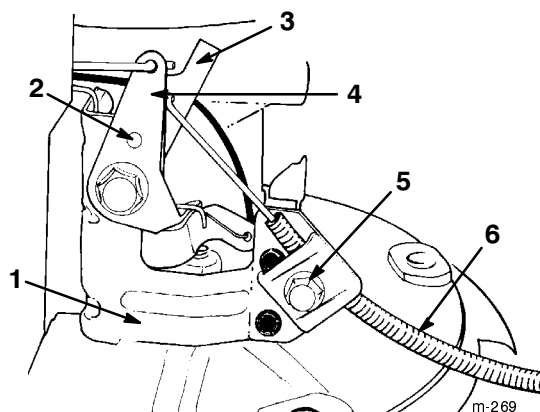

Figure 32
- Loosen the cable clamp screw until the throttle cable slides (Fig. 32).
- Ensure that the holes in the throttle bracket and the choke lever are aligned (Fig. 32). If not, follow the adjustment procedure in steps 6 through 9.
- Insert a small-diameter pin into the aligned holes to hold the adjustment (Fig. 32).
- Push the throttle cable until the throttle lever contacts the choke lever (Fig. 32).
- Tighten cable clamp screw (Fig. 32).